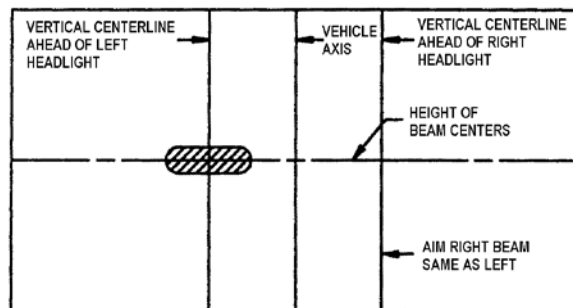

FIGURE 28: HIGH-INTENSITY ZONE (SHADED AREA) OF A PROPERLY AIMED UPPER BEAM ON THE AIMING SCREEN 7.6 M (25FT) IN FRONT OF VEHICLE 06503
7. The inspection limits for high-beam headlights shall be with the center of the high-intensity zone from 10 cm (4 in) up to 10 cm (4 in) down; and, from 10 cm (4 in) left to 10 cm (4 in) right on a screen at 7.6 m (25 ft) (Fig. 28).